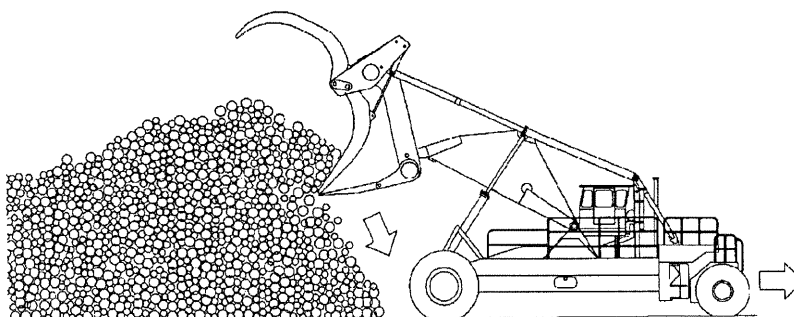

Fig 4-13
- When the required decking height is reached, push the load off with the kickoff arms and simultaneously lower the carriage and back away slowly. Keep the tines as close to the pile as possible to prevent logs from rolling down in front of the drive tires. See Fig. 4-13.